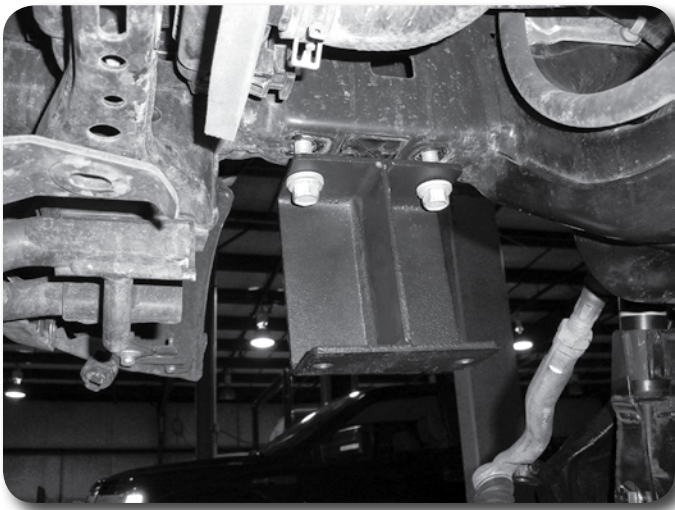

Figure 47
65. Locate the new sway bar drop brackets and mount to the original sway bar mount point on the frame rails with the factory hardware. **Figure 47** The open face of the brackets should be toward the inside of the vehicle. Torque bolt to 40 ft-lbs.